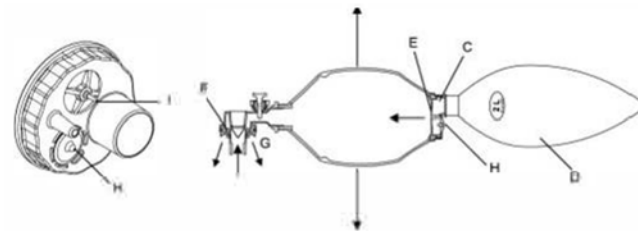

Figure 3. Inspiration
Exhalation begins when the patient exerts positive pressure (during passive exhalation) on the patient side of the duckbill valve (F) or when the operator releases pressure from the silicone bag (8). The valve lifts directing the patient's expiratory gases through the expiration ports (G) of the non-rebreathing valve (see figure 3).